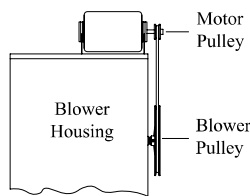

Fig. 3
- **Install pulley.** Install the adjustable motor pulley so that it aligns with the blower drive pulley (see Fig. 3) and tighten set screw.